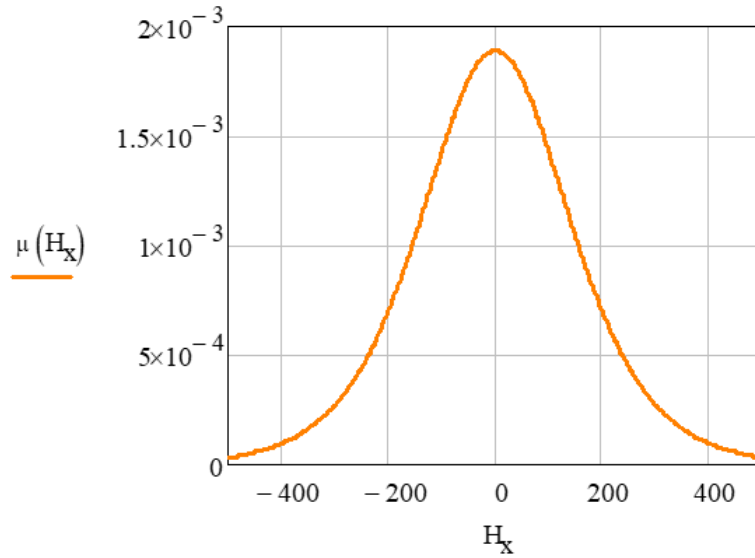

Fig. 2. Core permeability for example inductor.
Expressions for the hysteresis loop also allow us to plot a graph for the magnetic core permeability behavior, using (7). The example results are shown in Fig. 2.